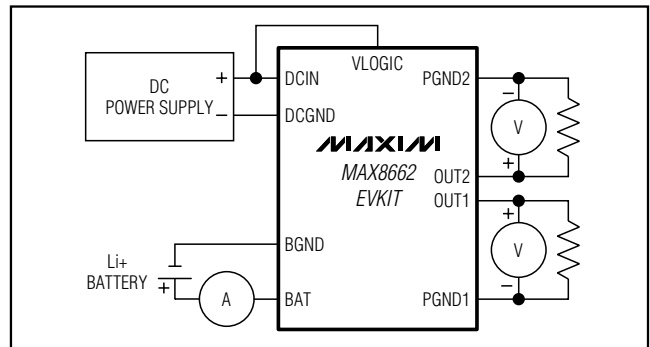

Figure 1. Test Procedure Setup
- 10) Make connections to the EV kit, as shown in Figure 1, but do not connect the battery until step 18.